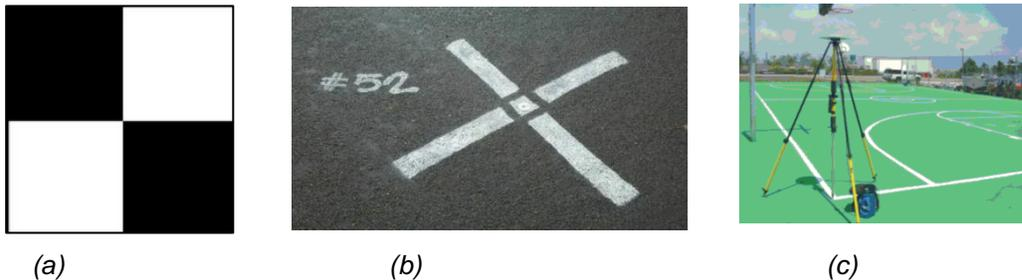

Figure 1: Different types of GCP's
Ground Control Points (GCP's) are points located on the ground with known coordinates. They can be anything that can be easily recognizable and measurable in both the image and the ground. For example, Figure 1 (a) shows a typical manmade GCP and (b) shows a well-constructed GCP using spray-painted onto the concrete using a stencil. Anyone can use a distinguishable feature on the ground as GCP too (Figure 1 (c)). They should be spaced strategically throughout your study area. Typically, they are as follows;
1. Prepare a permanent point that can be used as a base station (see fig. 1).